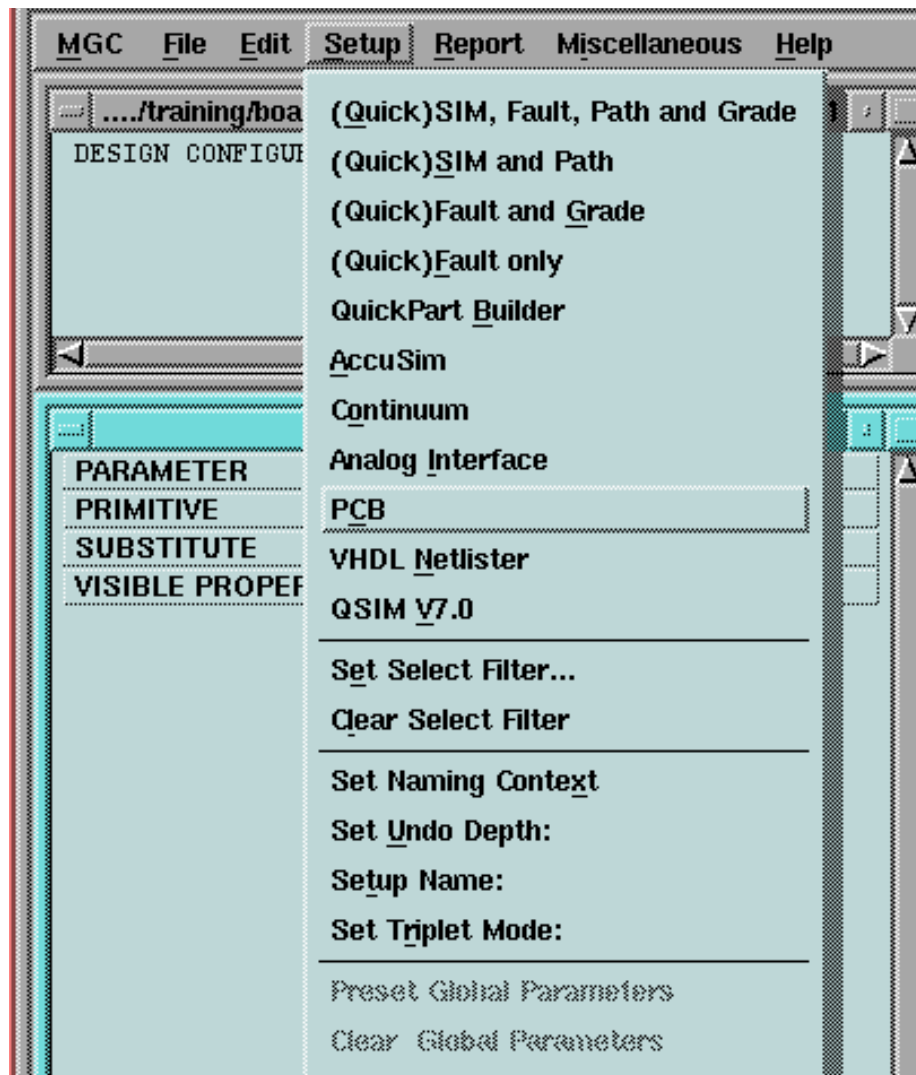

Figure 3-15. Setup > PCB Menu Item
7. Choose the **Setup > PCB** pulldown menu item shown in Figure 3-15.